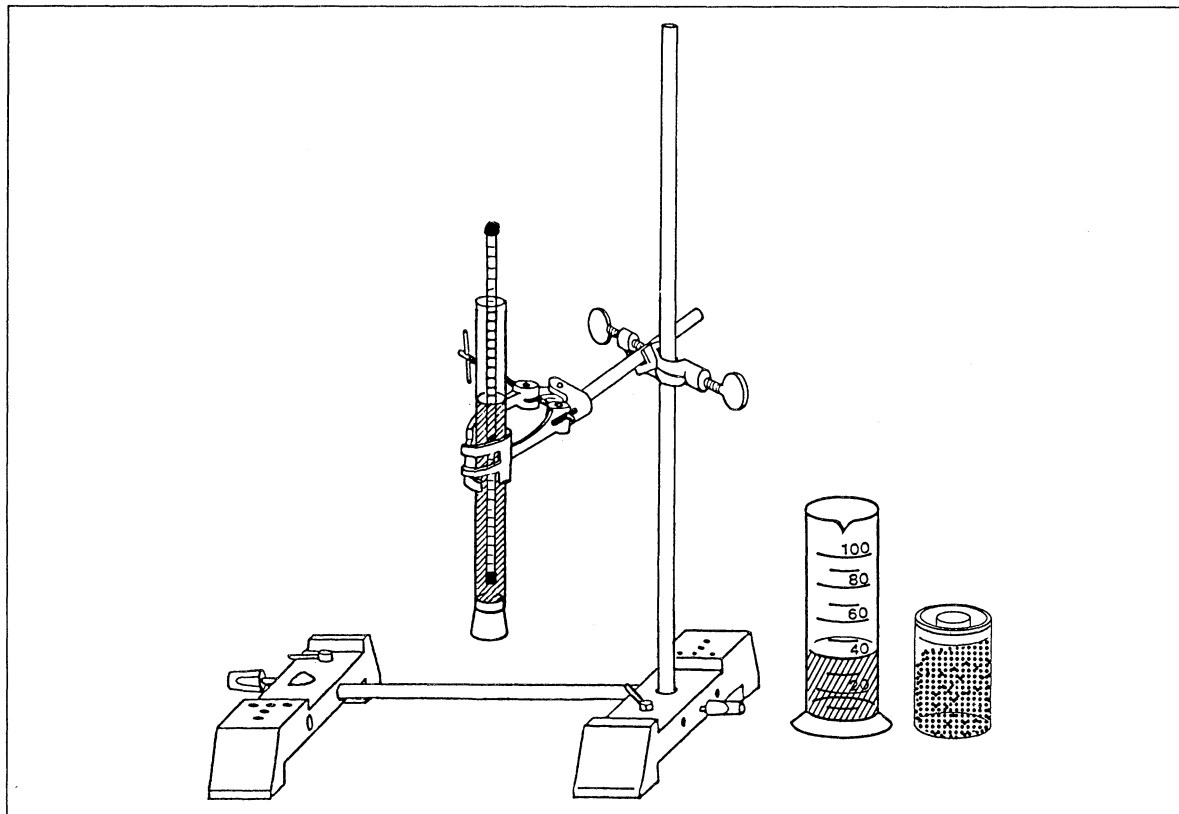

Fig. 1 Setup for determining density using a hydrometer.
1. Set up your stand as shown in fig. 1.